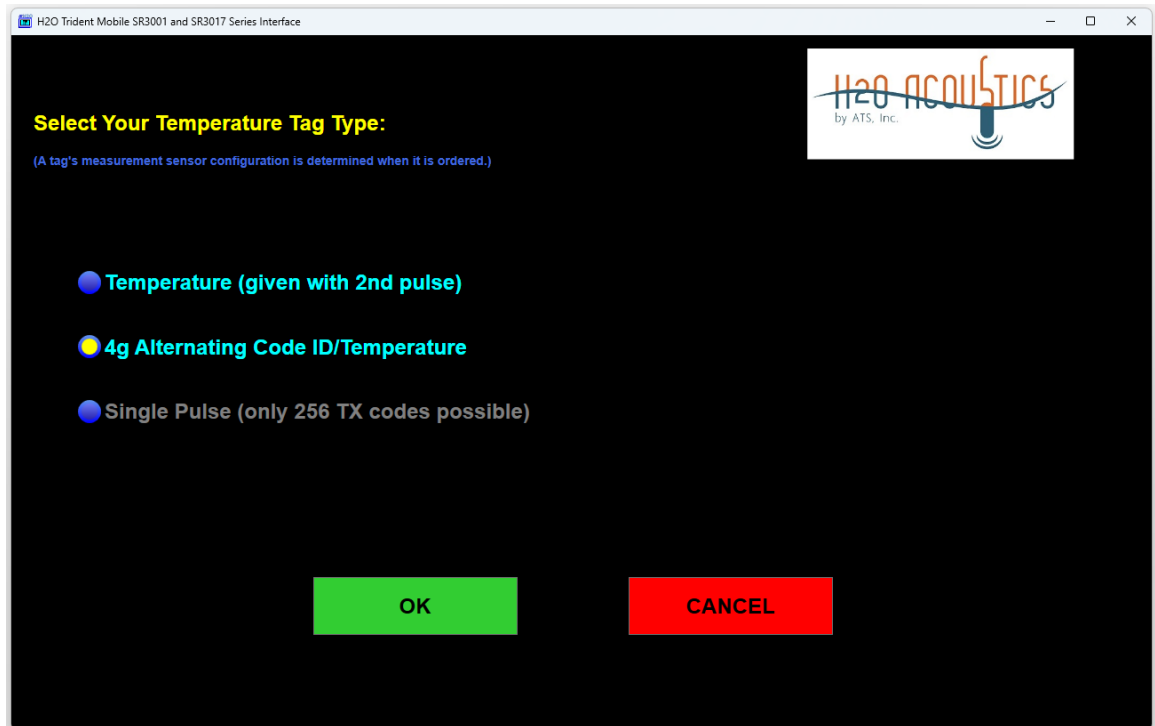

Figure 4-17
Shown in Figure 4-17 is the entry screen used for Temperature only tags. The default temperature only tag is the “Model SS400 (SB) Alternating Code ID/Temperature Acoustic Tag”.